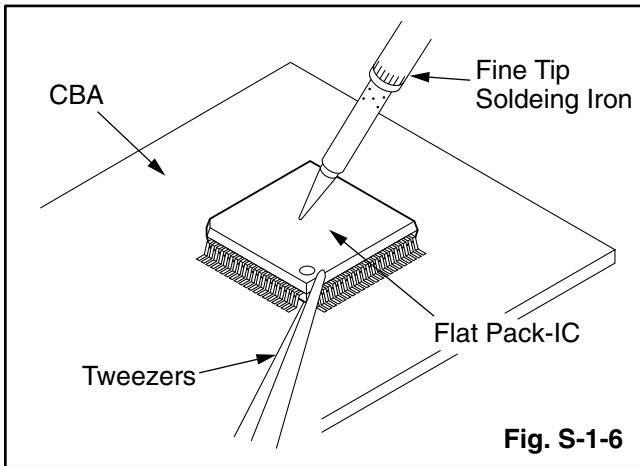

Fig. S-1-6
- (2) Remove the flat pack-IC with tweezers while applying the hot air.
- (3) Bottom of the flat pack-IC is fixed with glue to the CBA; when removing entire flat pack-IC, first apply soldering iron to centre of the flat pack-IC and heat up. Then remove (glue will be melted). (Fig. S-1-6)
- (4) Release the flat pack-IC from the CBA using tweezers. (Fig. S-1-6)
- (4) Bottom of the flat pack-IC is fixed with glue to the CBA; when removing entire flat pack-IC, first apply soldering iron to centre of the flat pack-IC and heat up. Then remove (glue will be melted). (Fig. S-1-6)
- (5) Release the flat pack-IC from the CBA using tweezers. (Fig. S-1-6)